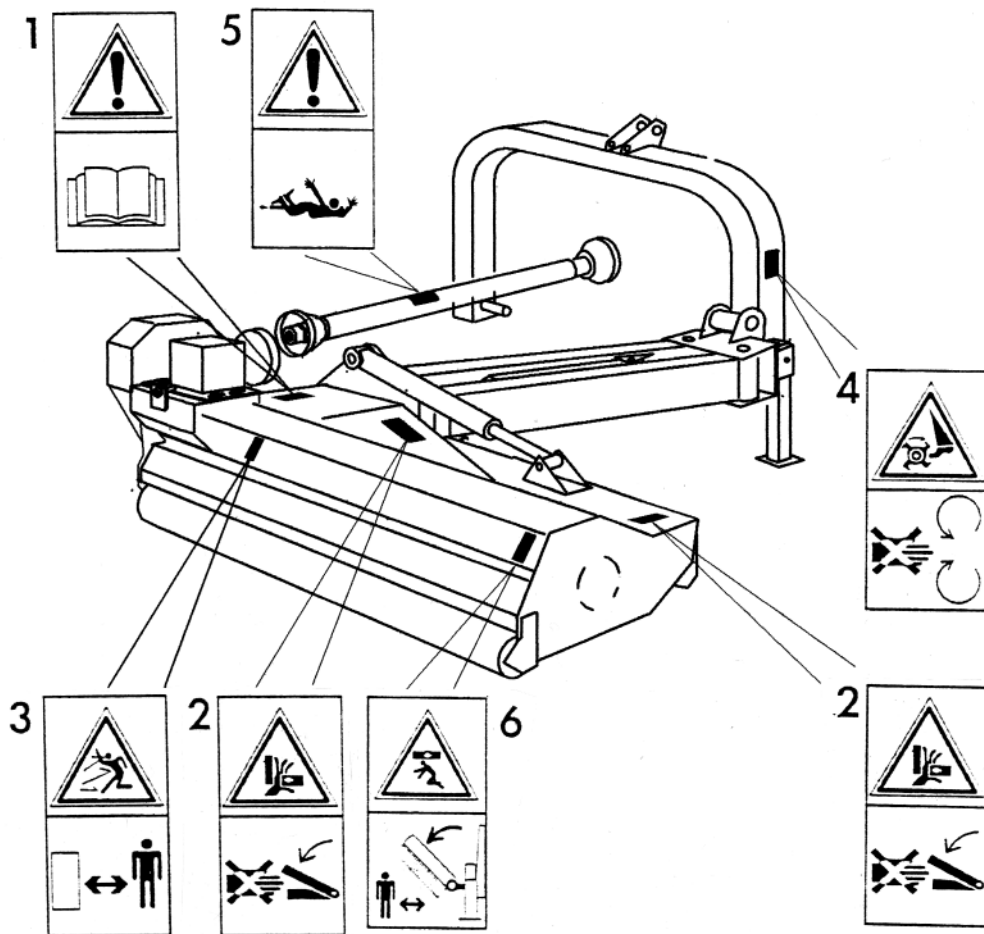

FIG. 8
3.6 Description and Location of Safety Decals (FIG. 8)